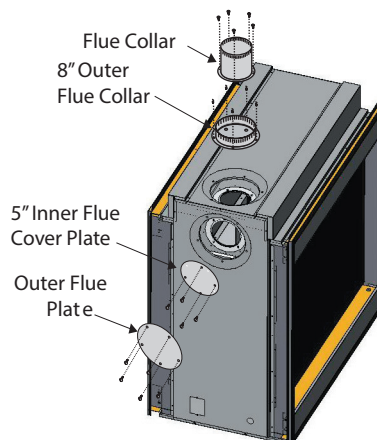

Figure 9. Flue cover and collar removal, Top Vented fireplace.
1. Remove the Side flue cover and gasket (5" and 8") on the flue outlet, as shown in Figure 9.
2. Next, Remove the Top flue collar's (5" and 8") on the flue outlet, as shown in Figure 9.
- Fireplace must be converted to Side Vent configuration prior to running vent, see Figure 9 and 9a.